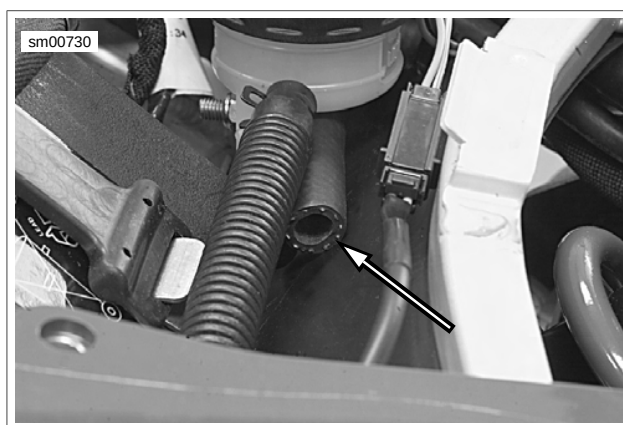

Figure 3-15. Transmission Vent Line: Firebolt
36. See Figure 3-15. Cut the cable straps holding transmission vent line and pull vent line out of frame leaving it attached to engine.